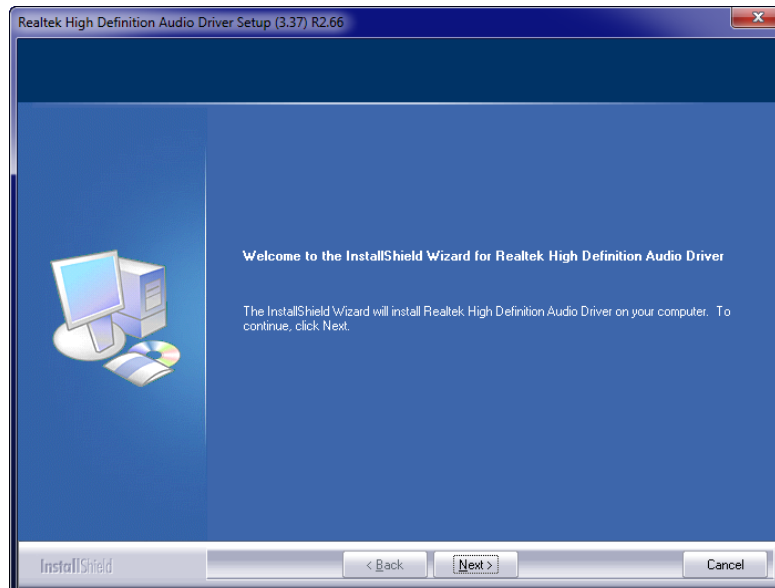

Figure 7-19: Audio Driver Welcome Screen
Step 4: The **Audio Driver Welcome Screen** in **Figure 7-19** appears.